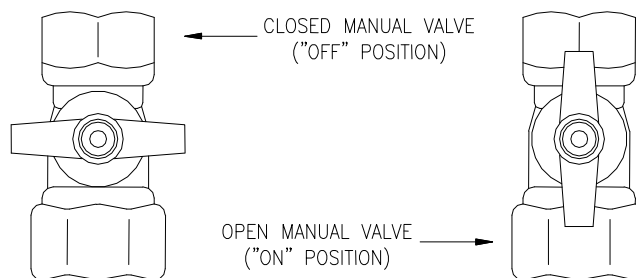

Figure 39. Manual Gas Valve.
1. STOP! Read the safety information above before proceeding. 2. Set the thermostat to the lowest setting. 3. Turn off all power to the electrical appliance. 4. This water heater does not have a pilot. It is equipped with a direct ignition device, which automatically lights the burner. Do not try to light the burner by hand. 5. Turn the manual valve located at the gas inlet of the appliance clockwise  to "OFF" (See Figure 39).	6. Wait (5) minutes to clear out any gas. If you then smell gas, STOP! Follow "B" in the safety information above on this label. If you don't smell gas, go to next step. 7. Turn the manual valve located at the gas inlet of appliance counterclockwise  to "ON" (See Figure 39). 8. Turn on all electric power to the appliance. 9. Set the thermostat to desired setting. 10. If the appliance will not operate, Follow the instructions "To Turn Off Gas To Appliance" and call your service technician or gas supplier.
1. Set the thermostat to the lowest setting. 2. Turn off all electric power to the appliance if service is to be performed.	3. Turn the manual valve at gas inlet of appliance clockwise  to "OFF" (See Figure 39).
1. Turn the gas shutoff valve on the gas supply inlet to the OFF position (See Figure 39).